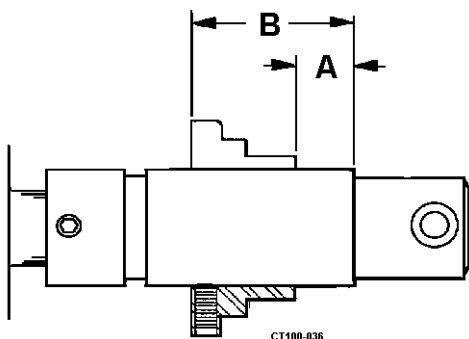

Figure 25 - Drive Collar for "D" Seal Type Adjustment
1. Slide the seal drive collar onto the stub shaft as shown in Figure 25. (Does not apply to the C-100; the C-100 does not require a drive collar. Proceed to step 3.)
2. Use the "A" and "B" dimensions in Table 4 to properly locate the drive collar on the stub shaft. See Figure 25. Tighten the setscrews to secure it in place.